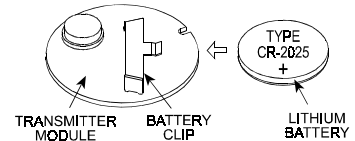

Figure 6. Battery Insertion
- Slide the old battery from under the clip in the opposite direction to the arrow shown in Figure 6.